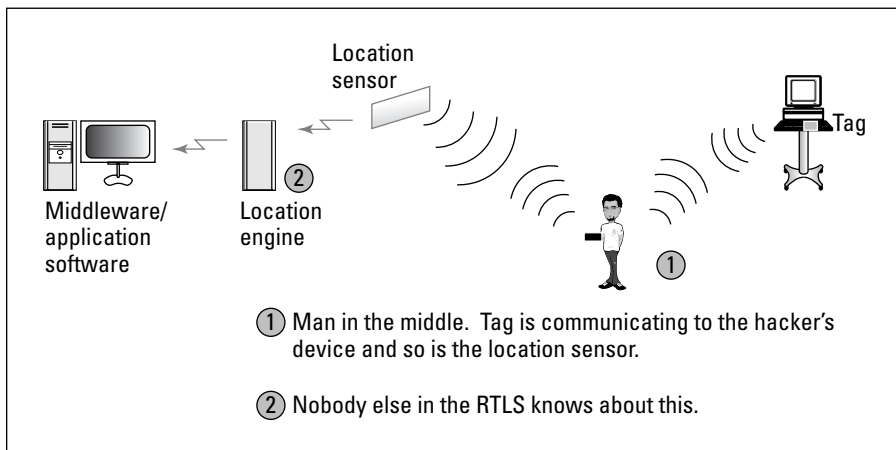

Figure 15-2:
- ✔ **Using the man in the middle:** In this attack, the attacker alters a legitimate message between the elements of the RTLS, such as between the tag and the location sensor, the location sensor and the location engine, and so on. The attacker confuses the RTLS by deleting, adding, changing, or reordering the messages (see Figure 15-2).